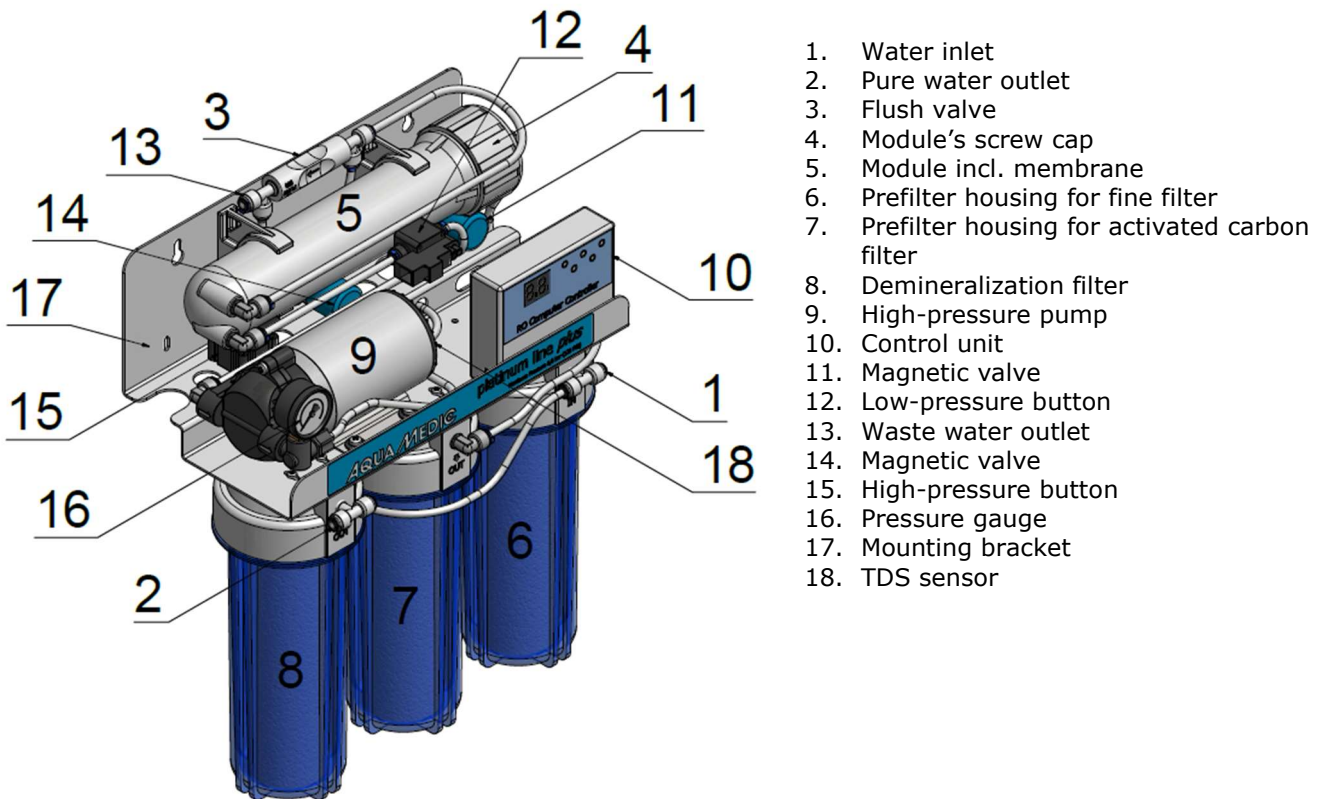

Fig. 4: platinum line plus
- **There is no osmosis nor waste water from the unit:** This may be due to a failure of the first magnetic valve (Fig. 4, No. 11), failure of a pressure sensor (Fig. 4, No. 12 or 15) or a blocked membrane. Contact your dealer for returning the unit for repair.
- **Waste water flow rate is too high:** The pure/waste water ratio is greater than 1: 3. Replace flush valve or check membrane's power. The pure/waste water ratio depends on the water temperature, the water contents, the flushing valve and the pressure. Check if the magnetic valve below the flushing valve (Fig. 4, No. 14) closes. If not, contact your dealer for returning the unit for repair.
- **Pure water flow is too low:** Check if the waste water flow is also low and maybe change the prefilter or membrane. Check if the magnetic valve below the flushing valve (Fig. 4, No. 14) closes after the flushing process when switching on the system. If not, contact your dealer for returning the unit for repair.
- **Tap water pressure is too low:** Check the high pressure pump and replace it, if necessary. If the low-pressure button is broken, the system does not start either: Replace the low-pressure button (Fig. 4, No. 12).
- **There is no pure nor waste water:** Check if the magnetic valve (Fig. 4, No. 11) opens. If not, contact your dealer for returning the unit for repair.
- Module d'osmose inverse PTFC 200 avec une membrane synthétique en polyamide/polysulfone ayant un rendement journalier d'environ 400 litres/jour pour une pression de 6-7 bar (fig. 4, n° 5)